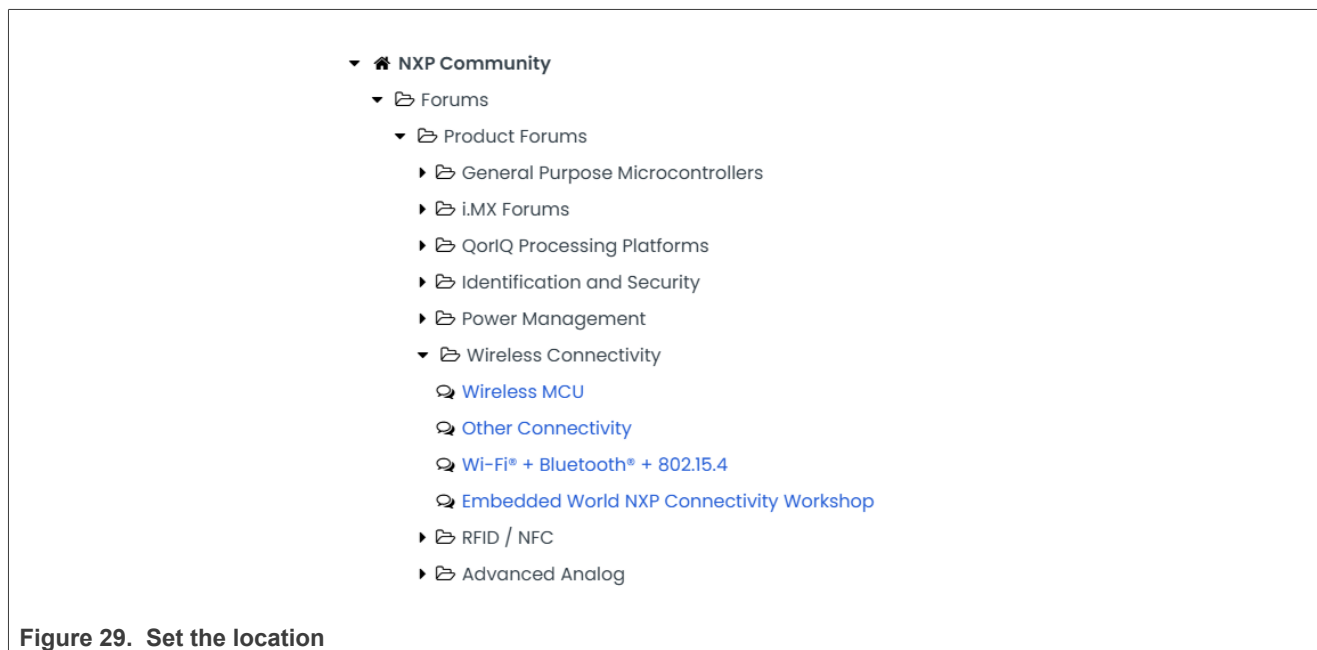

Figure 29. Set the location
Step 5 – Set the location to *NXP community > Forums > Product Forums > Wireless Connectivity > Wi-Fi + Bluetooth + 802.15.4*. (Figure 29).